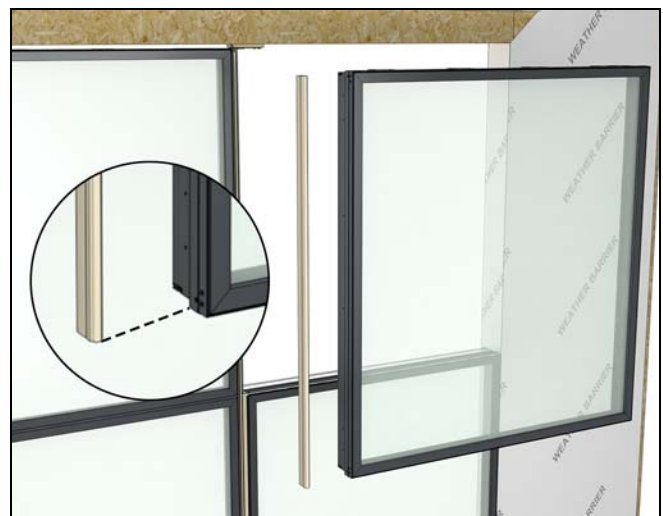

Figure 143
28. Attach a mull filler block to the A2 unit flush with the bottom of the frame and about 3/8" from the top. See Figure 143.